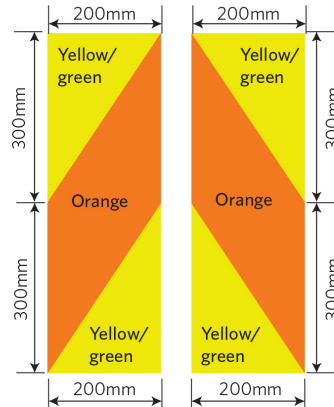

Figure 2-2-2. Hazard panel location and orientation
- must be of at least the minimum dimensions and the colours specified in Figure 2-2-2.